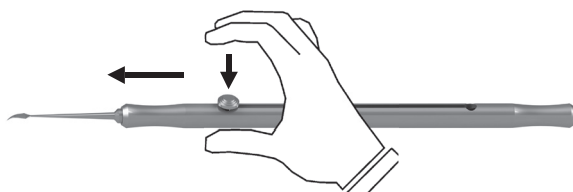
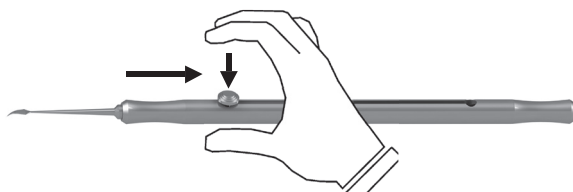

Fig. 2
Fig. 3
- Slide out the required instrument part by pushing continuously the button on the slider and sliding it into the respective direction (left or right) until it engages at the locking position. Attention: you can slide out only either the left or the right instrument part (fig. 2).
- Slide the respective instrument part back into the handle by pushing and simultaneously sliding the button (fig. 3) into the central locking position (fig. 1).
- Check if the moveable parts can be moved easily (fig. 2 and fig. 3).